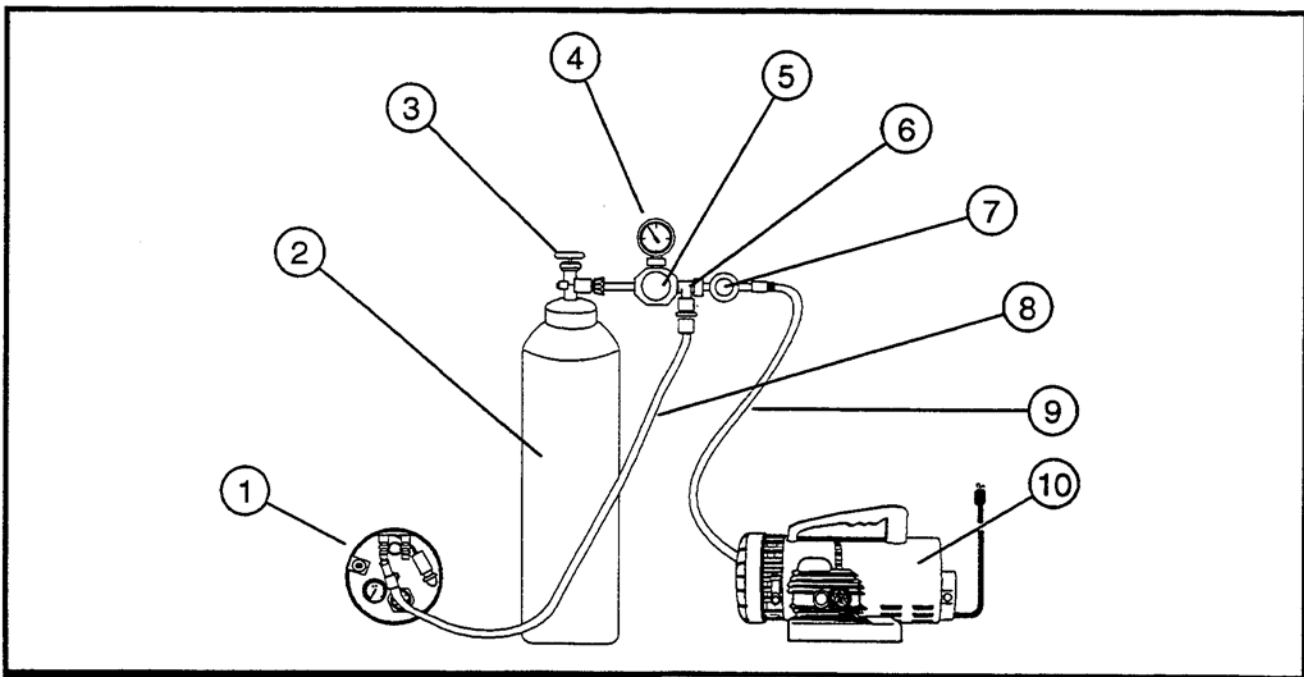
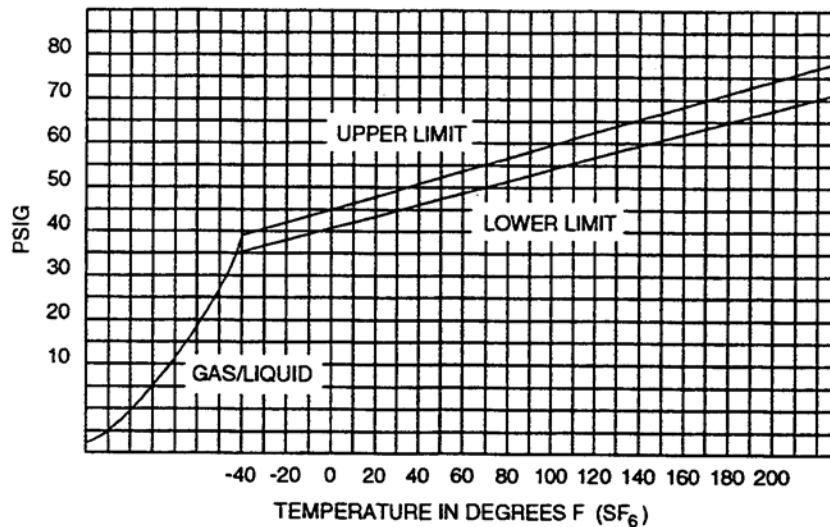

FIGURE 6-1: TUBE HEAD PRESSURIZATION SET UP
FIGURE 6-2: PRESSURE VS. TEMPERATURE CHART
This x-ray unit can be safely operated at Tube Head pressures as low as 50 psi @ 70°F. Should the Tube Head pressure fall below this value, but remain above 5 psi (as indicated on the pressure gauge), the Tube Head will need re-pressurizing. The procedures below outline re-pressurizing the Tube Head to 50 psi with dry sulfur hexafluoride gas at 70°F through the charging valve (automobile tire type) on the back of the Tube Head. Use a hose incorporated with a relief valve or pressure regulator, and a gauge having an accuracy of at least ± 4 psi. Refer to Figure 6-1 and 6-2 while performing these procedures.
- Step #3** Connect the Tube Head (1) to the regulator assembly (6) using the hose (8), as shown in Figure 6-1. Leave the SF₆ cylinder closed at this time. For this procedure, hose (9), and pump (10) are not required.
- Step #4** Open the vacuum line valve (7) slightly, to purge the hose (8) of standing air. Open the SF₆ gas cylinder slightly to purge the regulator of any standing air. Now close the vacuum line valve (7), and open the SF₆ cylinder valve (3) to its fully open position (against its physical stop).
- Step #5** The Tube Head will begin filling with SF₆. When the Tube Head gauge indicates the correct pressure, close the SF₆ cylinder valve (3). To determine the correct pressure, refer to the "Pressure vs. Temperature" chart (Figure 6-2).
This procedure is used when gas pressure within the Tube Head has dropped below 5 psi @ 70°F. To re-fill the Tube Head, follow the procedures outlined below while referring to Figure 6-1 and 6-2.
- Step #3** Connect the vacuum pump (10) and the Tube Head (1) to the regulator assembly (6), using the hoses (8) and (9) as shown in Figure 6-1.
- Step #4** Leaving the SF₆ gas cylinder valve (3) closed, open the vacuum line (7) counter-clockwise.
- Step #6** Close the vacuum line valve (7) and turn the vacuum pump off. Open the SF₆ cylinder valve (3) to its fully open position (against its physical stop). Fill the Tube Head until the gauge indicates 25 psi, then close the cylinder valve.
Step #7 Open the vacuum valve and run the pump an additional 10 minutes. Close the vacuum line and stop the pump. Open the SF₆ cylinder valve again and fill the Tube Head to the pressure indicated on the "Pressure vs. Temperature" chart (Figure 6-2). When the Tube Head is at the correct pressure, close the SF₆ cylinder valve.
As shown in Figure 6-2, temperature changes cause SF₆ gas to expand or contract at the rate of 1 psi for every 7°F increase/decrease in ambient air temperature. Allowances for these changes must be made when checking the Tube Head gas pressure, or while re-pressurizing/re-filling the Tube Head. The following graph illustrates the maximum and minimum pressure limitation of the Tube Head at various temperature ranges. This chart is to be used whenever the Tube Head is inspected, re-pressurized, or re-filled.